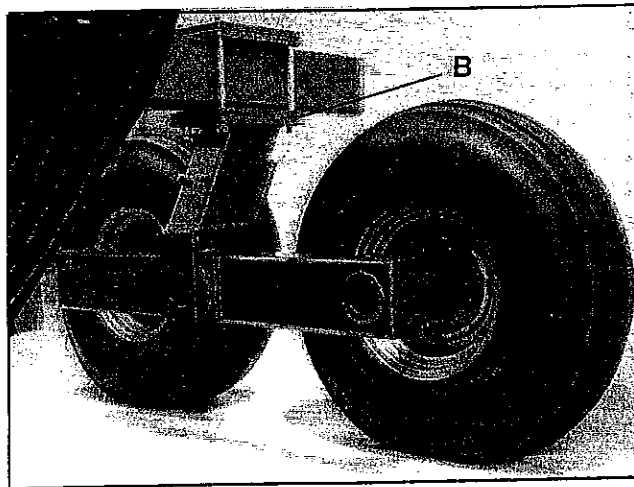

FIGURE 42 - WALKING BEAM CARRIER WHEEL
Now position the right walking beam carrier wheels according to Figure 9, page 10. Use two, one or no leveling plates (B) depending on field conditions, to adjust height of walking beam so machine runs parallel to ground at digging depth (see Figure 42). The right wheels can be positioned one of two different ways, depending on row spacing. The support can also be moved several inches on the bar, within each one of the positions (see Figure 9, page 10). For steerable wheel assembly see Figure 10, page 11.